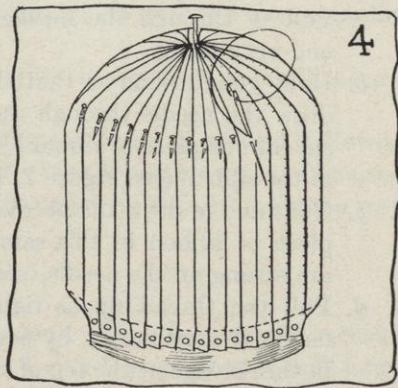
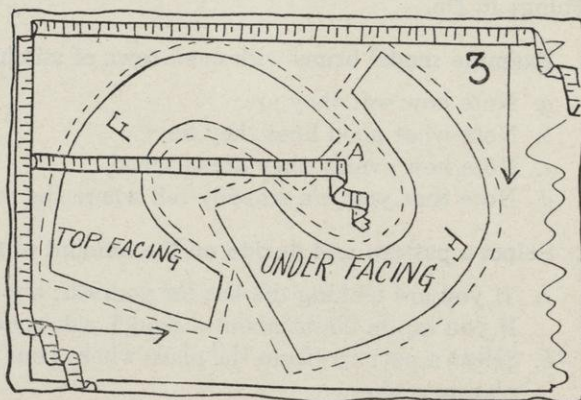

FIG. 4.
FIG. 3.
- a. Pin the very center of the strung ribbons to the very center of the crown tip. To do this, place the knot in the first ribbon, which you strung, against the crown block at the very center of the tip, then pull the first piece of ribbon down so that the wrong side is against the block, and so that it runs vertically at the direct right side of the crown, and put a pin in it to hold it temporarily (see Figure 3 A, page 208). (You may tack the first ribbon to the very center of the crown, if you are using a crinoline foundation.)
- b. Spread the ribbon ends out so that the raw edges, where the ribbons are strung, lap one under the other, and so that the center is finished and not a single raw edge shows. Stick a few pins into the ribbon as you work (see Figure 3 B). (You may pin ribbons as in Figure 3 C, if you are using a foundation crown.) You will have to remove the pin that holds the first few strips of ribbon in place at the direct right side, so that you can push the last few raw edges at the center tip under them (see Figure 3 B).
- (1) Pull each piece down to the headsize and tack firmly to the bottom of the crown block with thumb tacks (see Figure 3 C).
- (2) At direct front, back, and sides pin the piece of ribbon to the piece over which each laps, in the selvage only, just where it turns over at the side crown (see Figure 3 C). These pins will hold the front, back, and side ribbons in place, while you graduate the others between them.
- (3) Pin all of the other ribbons at the top of the side crown so that they graduate evenly.
- (4) Show your work to your teacher to be sure that it is correct.
- a. Sew ribbon strips together with two running stitches and one back stitch. Start to sew at the tip each time, and work down to the bottom of the crown (see Figure 4). The stitches must be taken only in the selvage of the ribbon. They must be very small and invisible on the right side. The stitches may go through the foundation, if you are using one.
(9) Label this facing *under facing* (see Figure 3).
(10) Remove pattern and put it away carefully until you are ready to cut your material.
(11) Measure how much paper one facing covers. This shows the amount of crinoline you need (see point A and the lower arrow of Figure 3). Jot down that measurement and label it *crinoline*.
- (12) Measure how much of the paper both facings cover. This shows you how much outer fabric (and interlining) you need for the **brim only** (see the arrows of Figure 3, page 214). Jot down that measurement and label it *facings*.
- e. Decide if your material needs crinoline to hold the brim in shape and if an interlining is needed to keep the crinoline from showing through the outer material. Read Sections (1) and (2) in order to help you to decide.
- (1) For almost all materials, in order to give the hat more body, it is necessary to put crinoline, or some other slightly stiff material, in between the two outer layers of material. For the measurements of the crinoline, see point A and the lower arrow of Figure 3, page 214.
- (2) For such materials as taffeta or crepe de chine, it will be necessary to put a layer of some soft material, such as very thin cotton flannel or cotton crepe, between the crinoline and the outer material to make the outer material look soft and rich. For the measurements of this interlining (see the arrows of Figure 3). It always measures the same as the outer fabric.